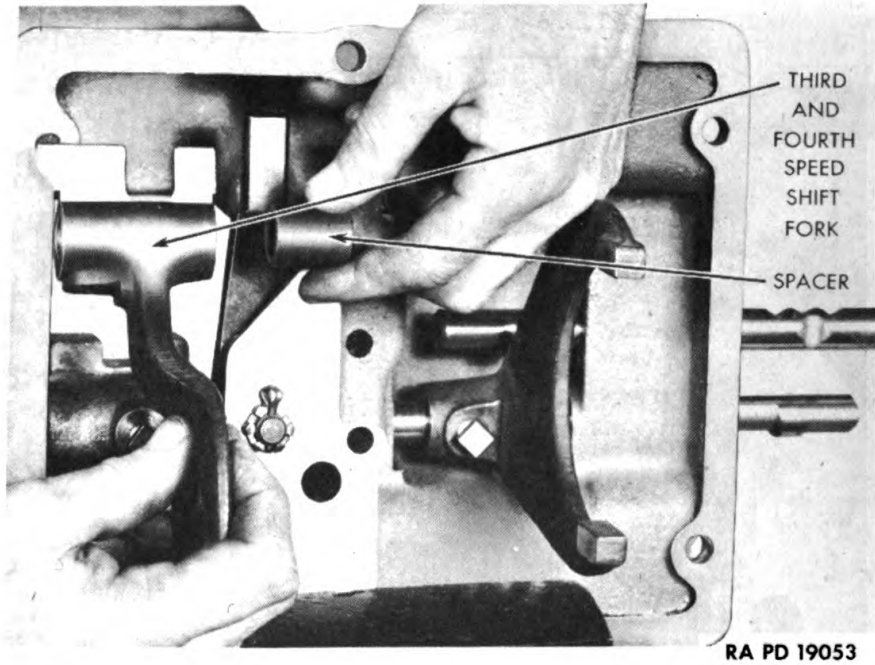
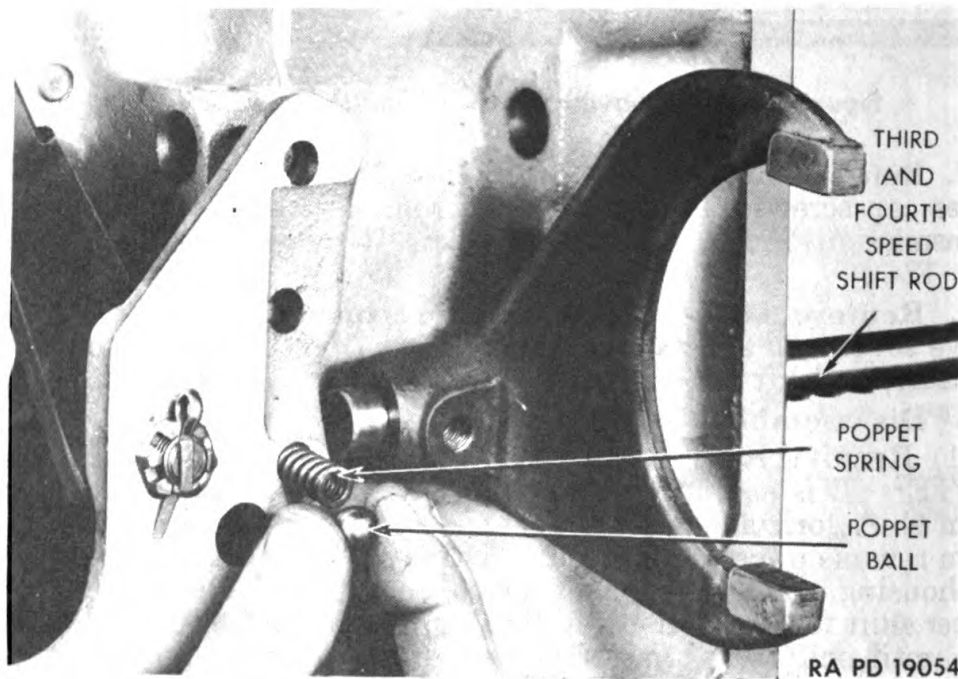

Figure 131 — Removing Third and Fourth Speed Shift Fork
Figure 132 — Removing Third and Fourth Speed Shift Rod Poppet Ball and Spring
(2) **REMOVE THIRD AND FOURTH SPEED SHIFT ROD AND FORK.** Remove set screw from shift fork, and pull shift rod through rear of housing until small interlock pin can be removed from hole in shift rod (fig. 130). Continue pulling rod out of housing until free of shift fork and small spacer (fig. 131). Complete removal of rod. Remove interlock balls, two at rear and two at center of housing. Remove shift rod poppet ball and spring at center of housing (fig. 132).